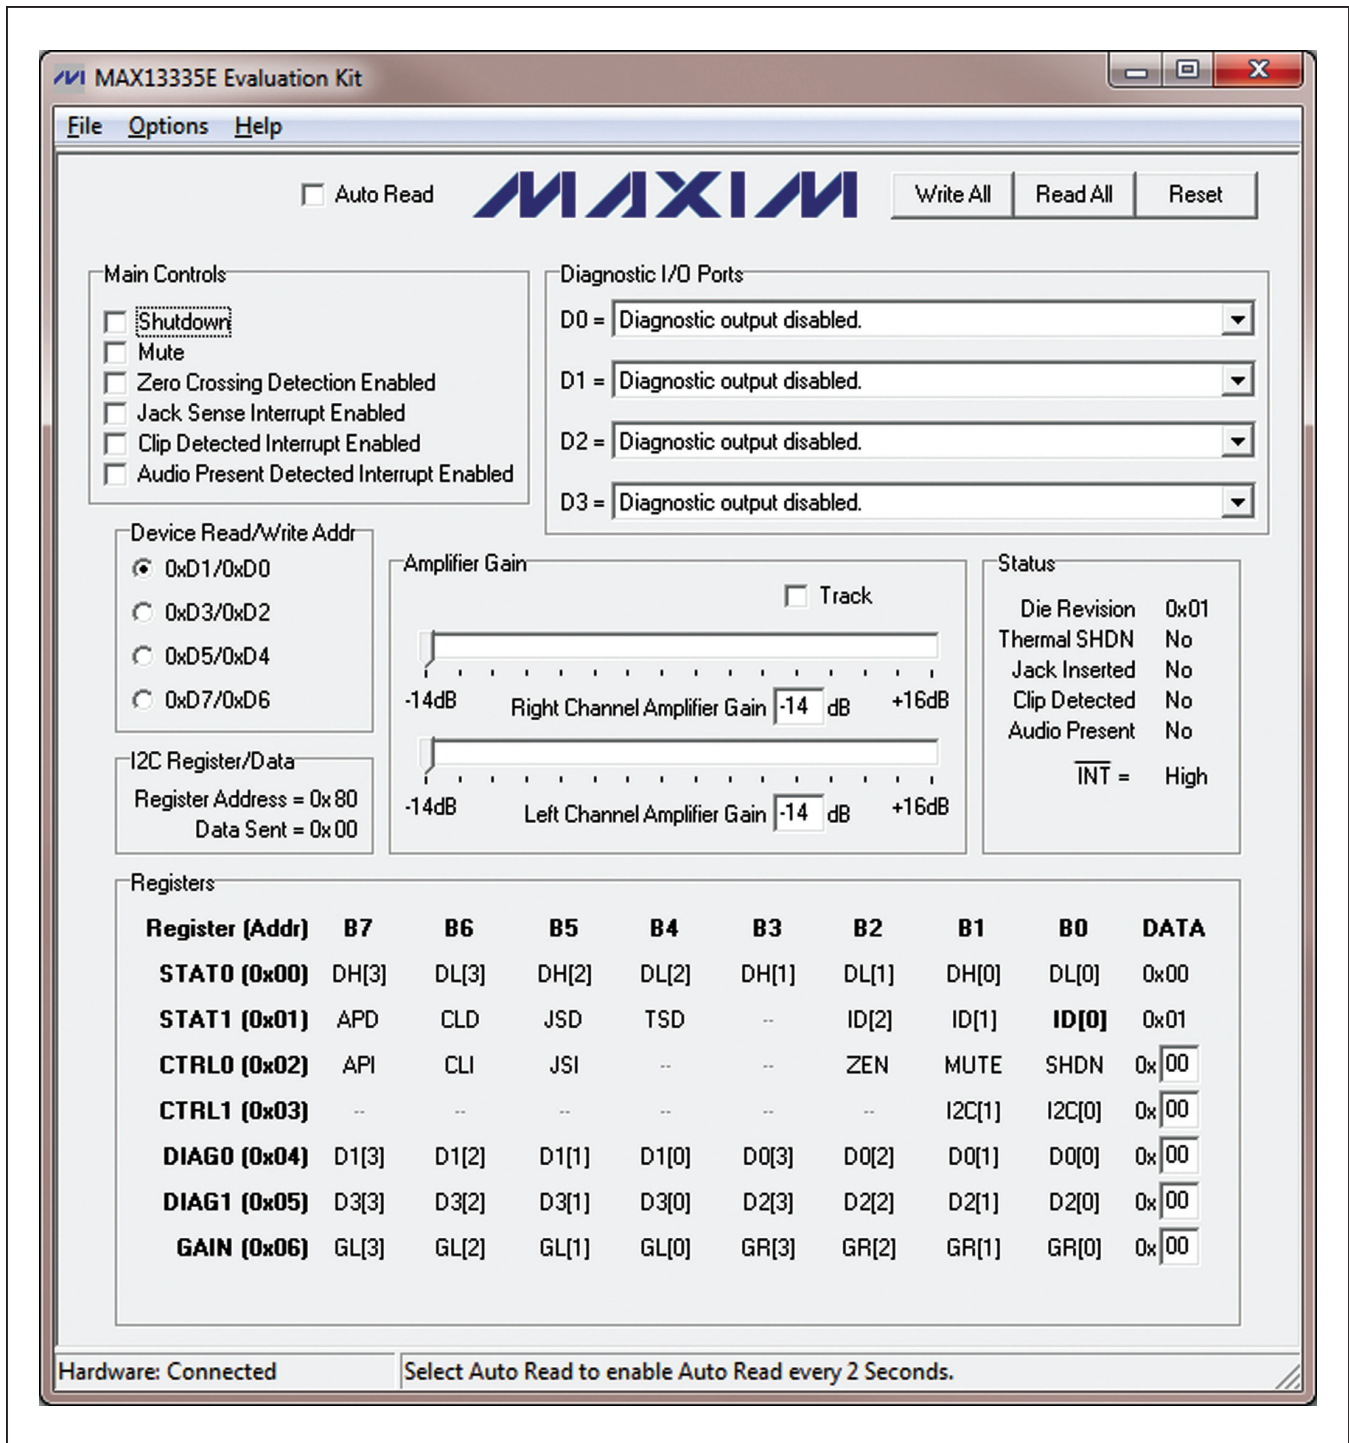

Figure 1. MAX13335E EV Kit Software Main Window
- 12) Start the EV kit software by opening its icon on the desktop or in the **Start | Programs | Maxim EVKIT Software** menu. The EV kit software main window appears, as shown in Figure 1.
The MAX13335E EV kit software GUI provides a convenient way to test the features of the MAX13335E IC. Figure 1 shows the EV kit software's main window. The EV kit software main window divides the EV kit functions into logical blocks. Actions on this software window generate I2C commands to update the IC's internal memory registers.